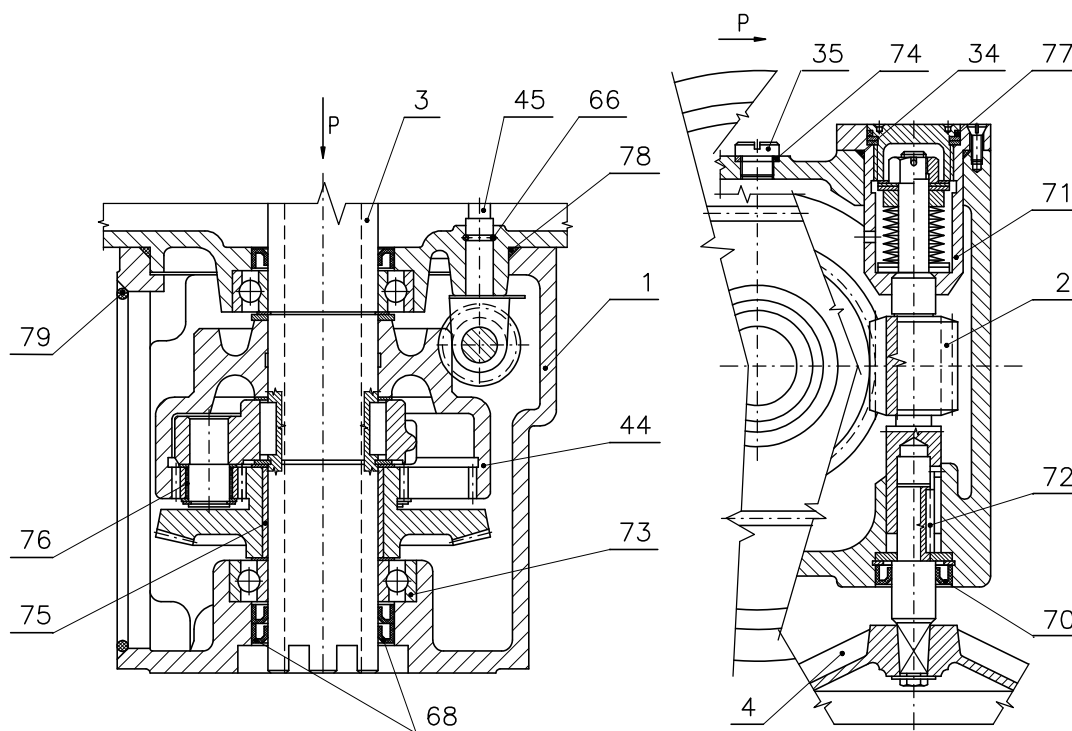
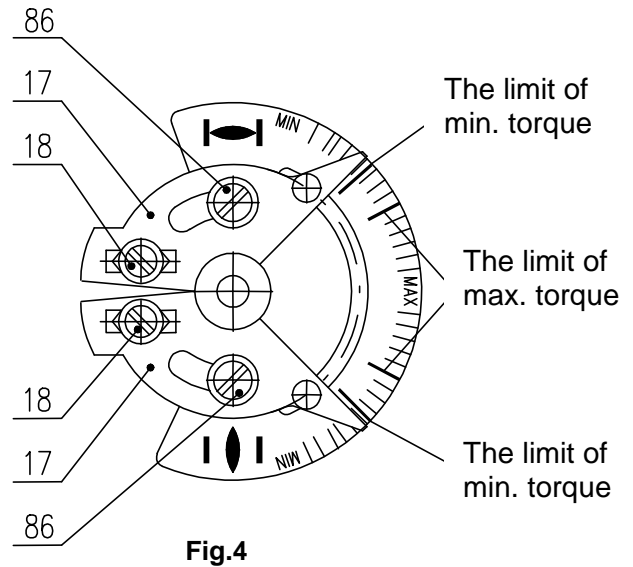

Fig.2 – Gearbox
Fig.4
Module M3 – a gearbox with a manual control mechanism (Fig.2)
Torque unit (Fig. 4 and 5) is composed of three functional sub-units:
- torque disk (Fig. 4)
Torque disk (Fig. 4) is assembled on torque shaft (45) discharged from power transmission (Fig.2). Steer angle of torque disk is proportional to torque moment of output shaft (3) of electric actuator. Its magnitude can be adjusted by segments (17) and by shifting of backstops (18). Achieved torque moment value is from torque disk transferred on torque unit (9) by means of torque lever (42).
It changes rotary movement of the output shaft (3)(Fig.2) to linear movement of output spindle (83). The bronze joint nut (84) with a trapezoidal thread is put into teeth of the output shaft (3). The frame (85) limits rotation of the output shaft (83) and function to indicate position. Pointers (95) "O" (open) or "Z" (closed) indicate position and they are fixed on actuators supporting columns(87).